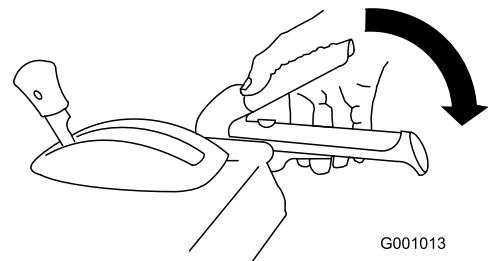

Figure 34
2. Engage the auger/impeller lever and hold it in place (Figure 34).